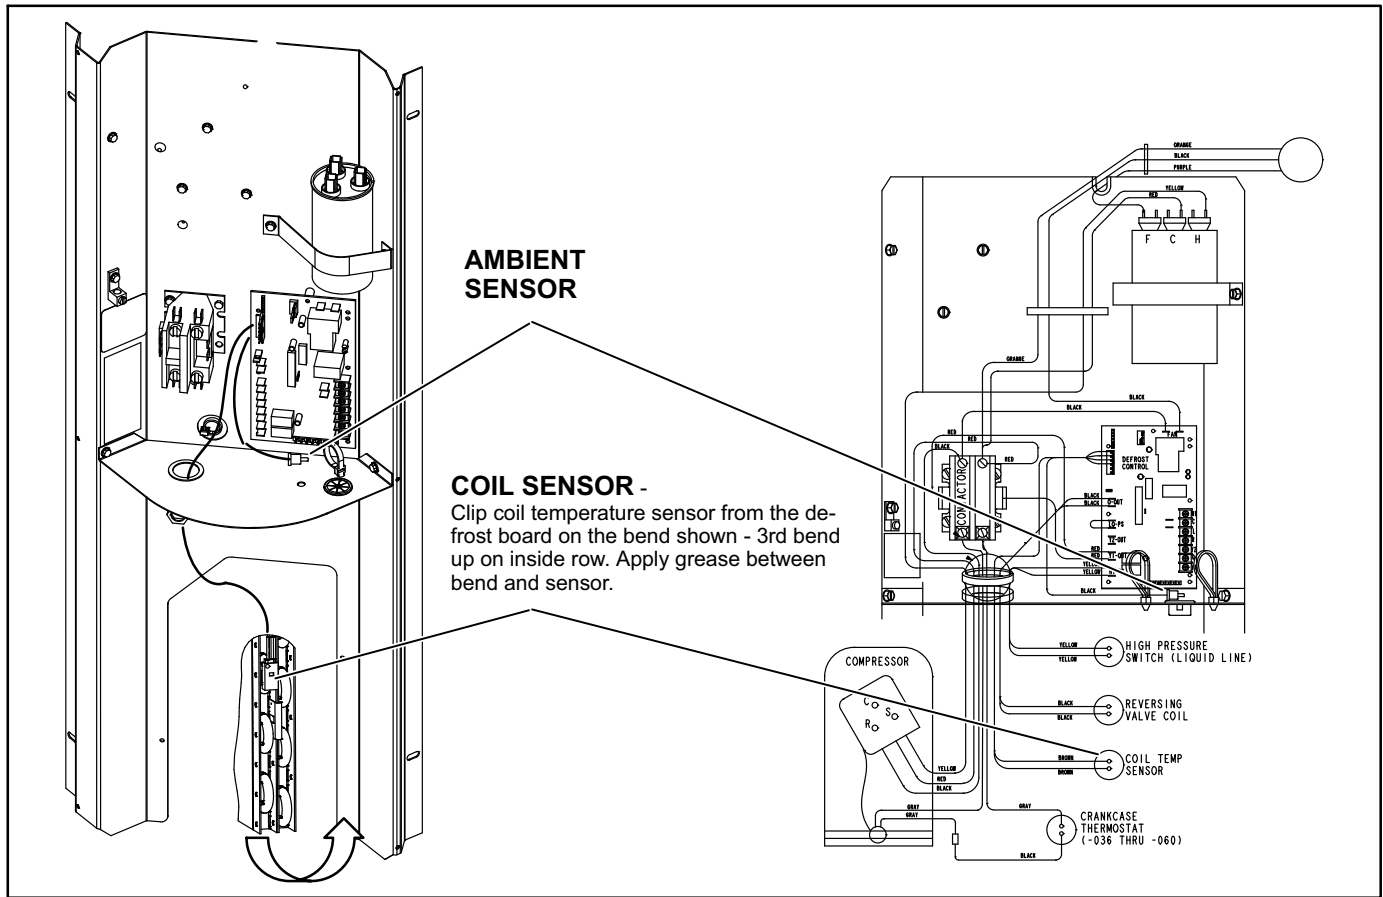

FIGURE 5
**Coil Sensor**—The coil temperature sensor (shown in figure 5) considers outdoor temperatures below -35°F (-37°C) or above 120°F (48°C) as a fault. If the coil temperature sensor is detected as being open, shorted or out of the temperature range of the sensor, the board will not perform demand or time/temperature defrost operation and will display the appropriate fault code. Heating and cooling operation will be allowed in this fault condition.
**Ambient Sensor**—The ambient sensor (shown in figure 5) considers outdoor temperatures below -35°F (-37°C) or above 120°F (48°C) as a fault. If the ambient sensor is detected as being open, shorted or out of the temperature range of the sensor, the control will not perform demand defrost operation. The control will revert to time/temperature defrost operation and will display the appropriate fault code. Heating and cooling operation will be allowed in this fault condition.